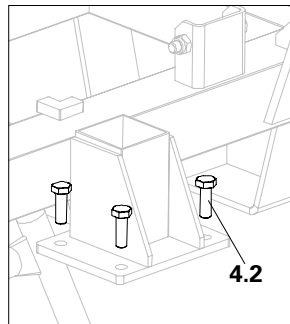

Fig. A1.02a
2. Insert the four numbers of M10 x 30 bolts (**4.2**) (art. no.: 116436) at each wheel location. (Fig. A1.02a)